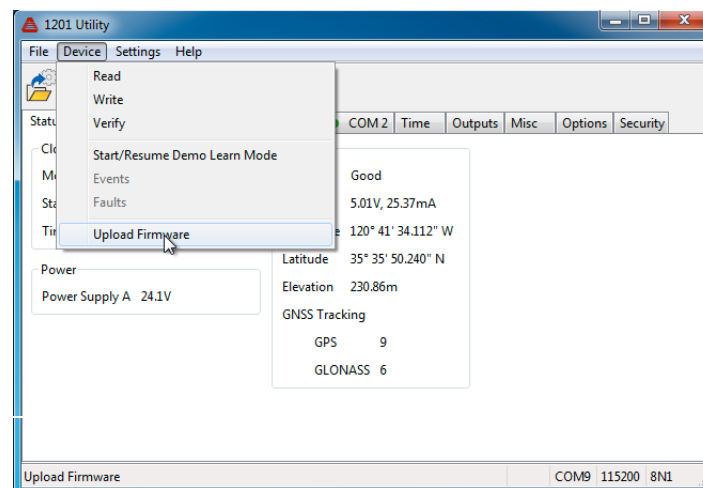

Figure 7.22: Starting the Upload Process
1. Select **Device > Upload Firmware** (see Figure 7.22), or click the Upload Firmware button, and you will open a file browser window to select the firmware file.